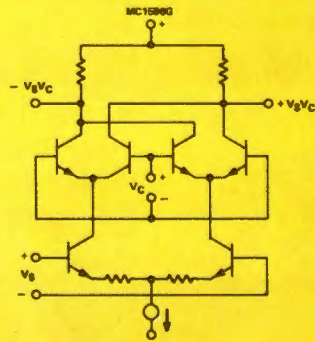

Fig. 15a. Simplified Schematic of Balanced Modulator Demodulator Circuit.
- With the above background, refer to Fig. 15a and note that this circuit is a practical implementation of the concepts described. If the two halves of the circuit are identical (which, with external balancing potentiometers is a valid assumption) then the Carrier and Signal frequencies will be cancelled and only the products of these two signals (upper and lower sidebands and harmonics thereof in the case of amplitude modulation) will be present at the output.
- Comparison of the simplified diagram of the Balanced Modulator (Fig. 15a) used to explain the operation of the unit and the schematic